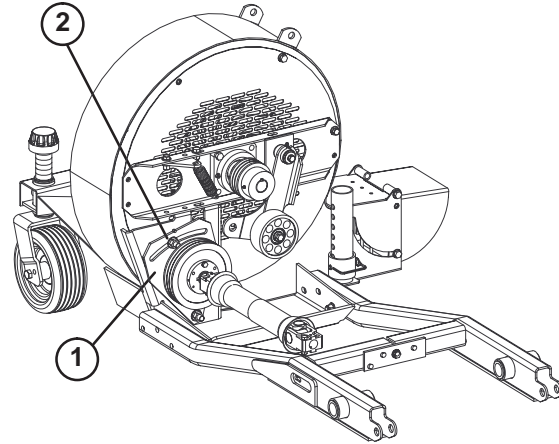

Figure 13
- A. Loosen nut securing belt tensioner to blower housing (Fig. 13).
- B. Rotate belt tensioner until idler spring body is extended to a length of 3.25 – 3.50" (Fig. 13), then tighten nut.